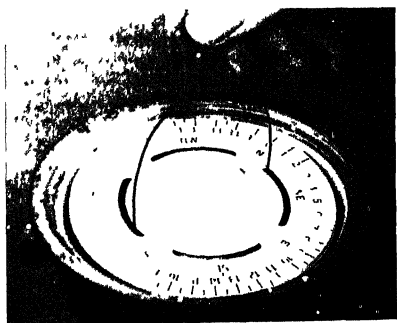

Figure 10-12.—Removing the float assembly.
7. With a piece of wire bent to form two hooks (fig. 10-12), lift the float out.